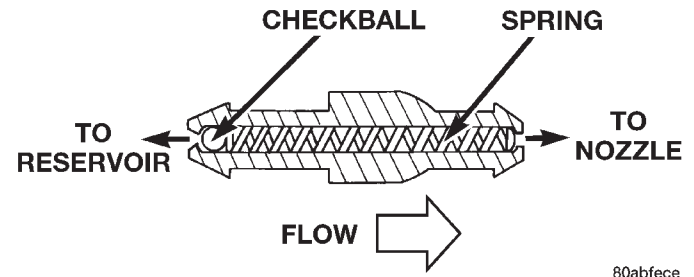

Fig. 20 Washer System Check Valve
(1) Disconnect the washer supply hoses from the barbed nipples on each end of the front or rear washer system check valve.
(2) Remove the check valve from the vehicle.
(3) When reinstalling the check valve, be certain the valve is properly oriented within the system flow (Fig. 20).